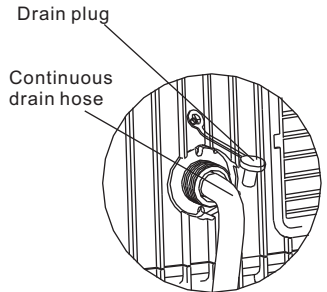

Fig. 22
- Remove the rubber plug at the back of the unit and attach a hose to drain outlet. Place the open end of the hose directly over the drain area in your basement floor (See Fig.22 & 23).